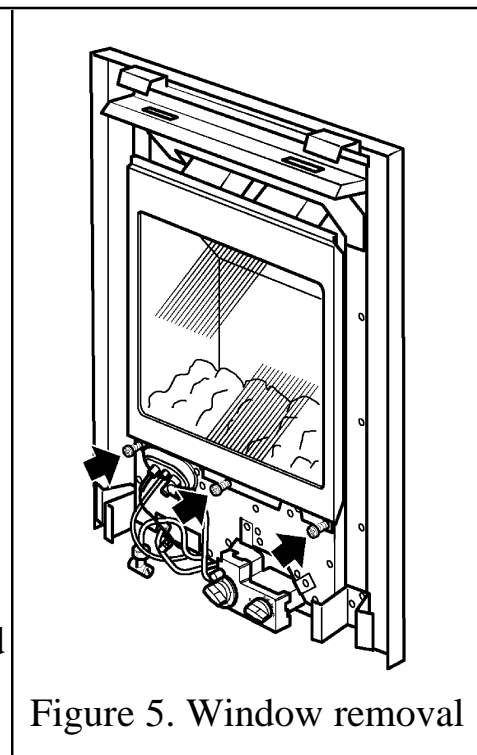

Figure 5. Window removal
- Unscrew and remove the three spring loaded window fixing screws and washers from the base of the window frame (See figure 5). Keep the screws and washers in a safe place.